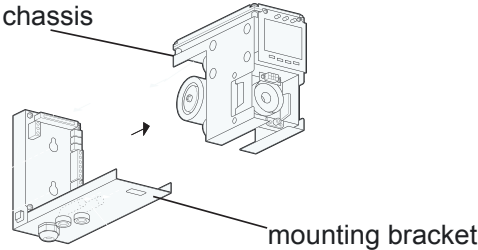

Figure 3: Removing the chassis
5. Pull the chassis forward to disconnect it from the mounting bracket assembly (see Figure 3).